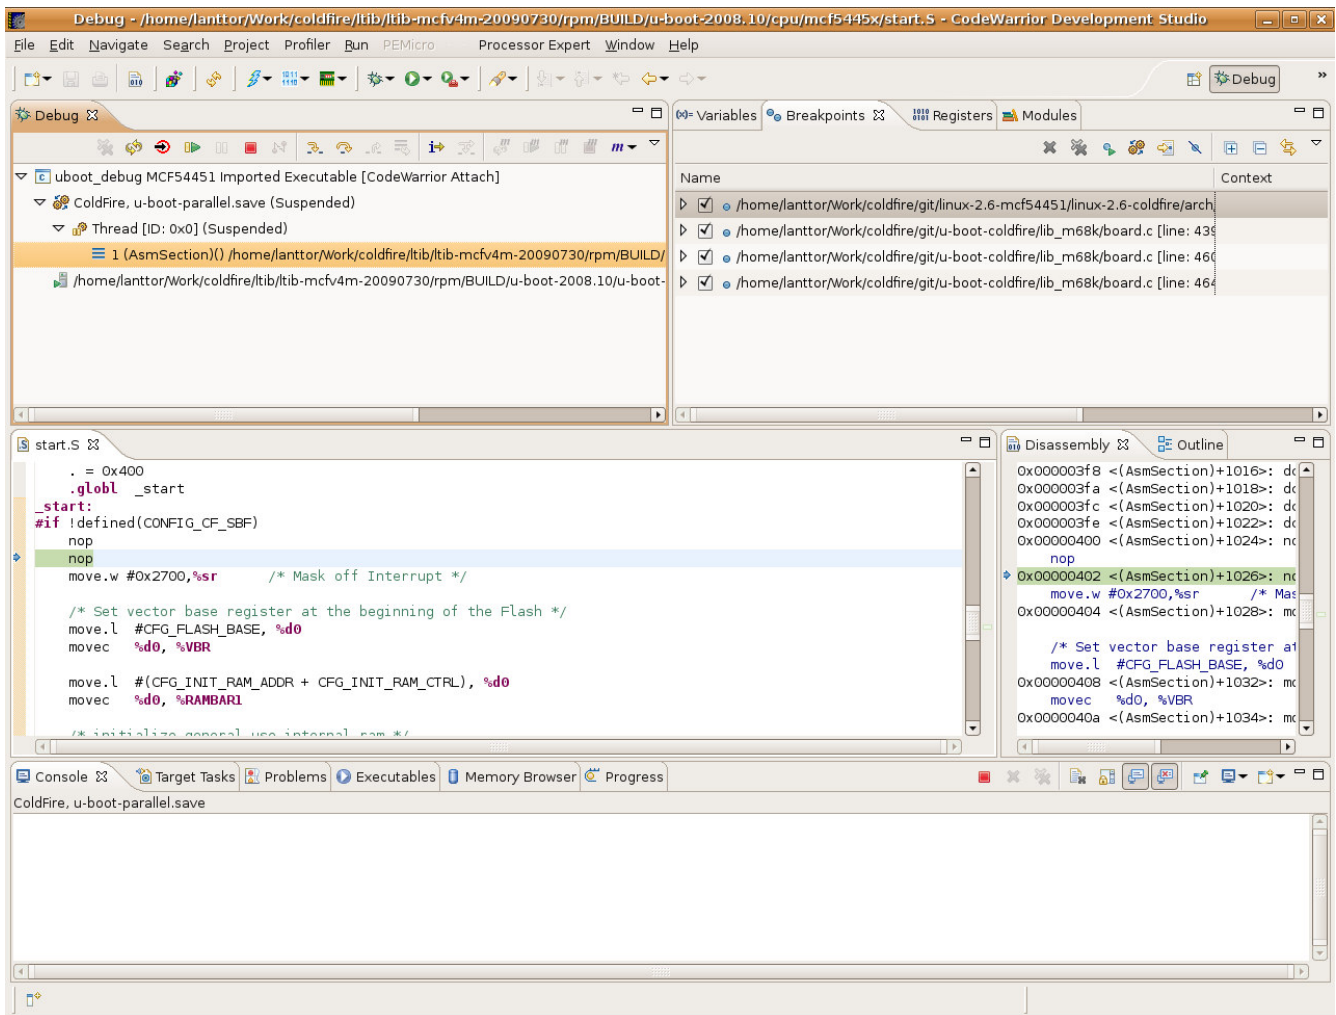

Figure-8 Debug View
16) This debugs the u-boot. Please refer to Figure-8.